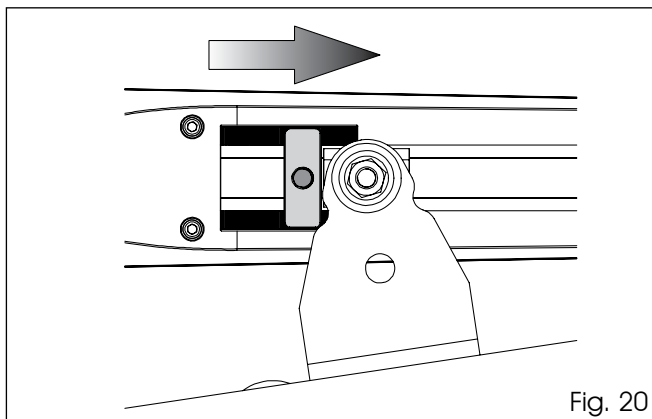

Fig. 20
4. Move the mechanical stop until it is close to the back side of the bracket, as indicated in Figure 20.